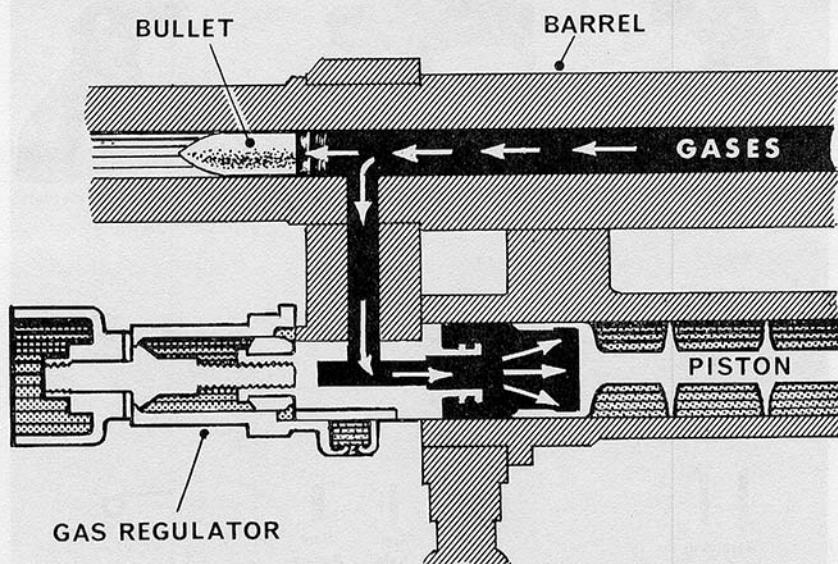

Fig. 37.—The path of the gas
a. When the round is fired, some of the gasses pass through the gas vent into the gas cylinder, strike the head of the piston and drive it to the rear as previously taught. (see Fig. 37.)